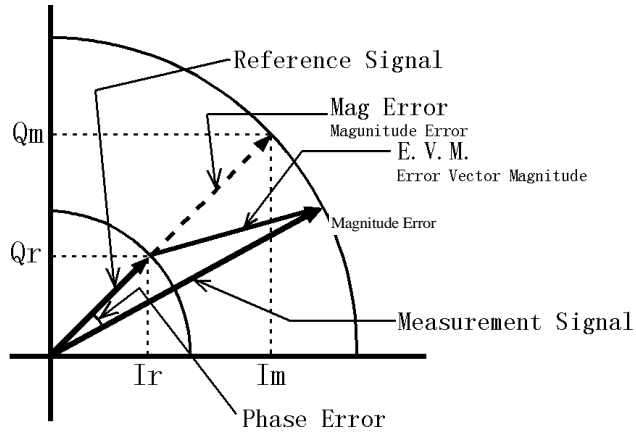

Figure 5-9 Mag Error, Phase Error, E.V.M.
Mag Error is defined as shown in Figure 5-9, and the value is calculated using the following formula.
Phase Error is defined as shown in Figure 5-9, and the value is calculated using the following formula.
E.V.M. is defined as shown in Figure 5-9, and the value is calculated using the following formula.